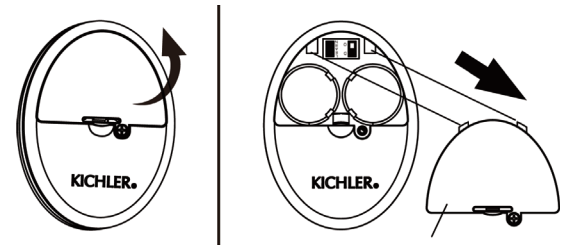

Fig. 25
Step 1. Using a screwdriver, remove the battery cover from the handset and save the screw for later use. (Fig. 25)